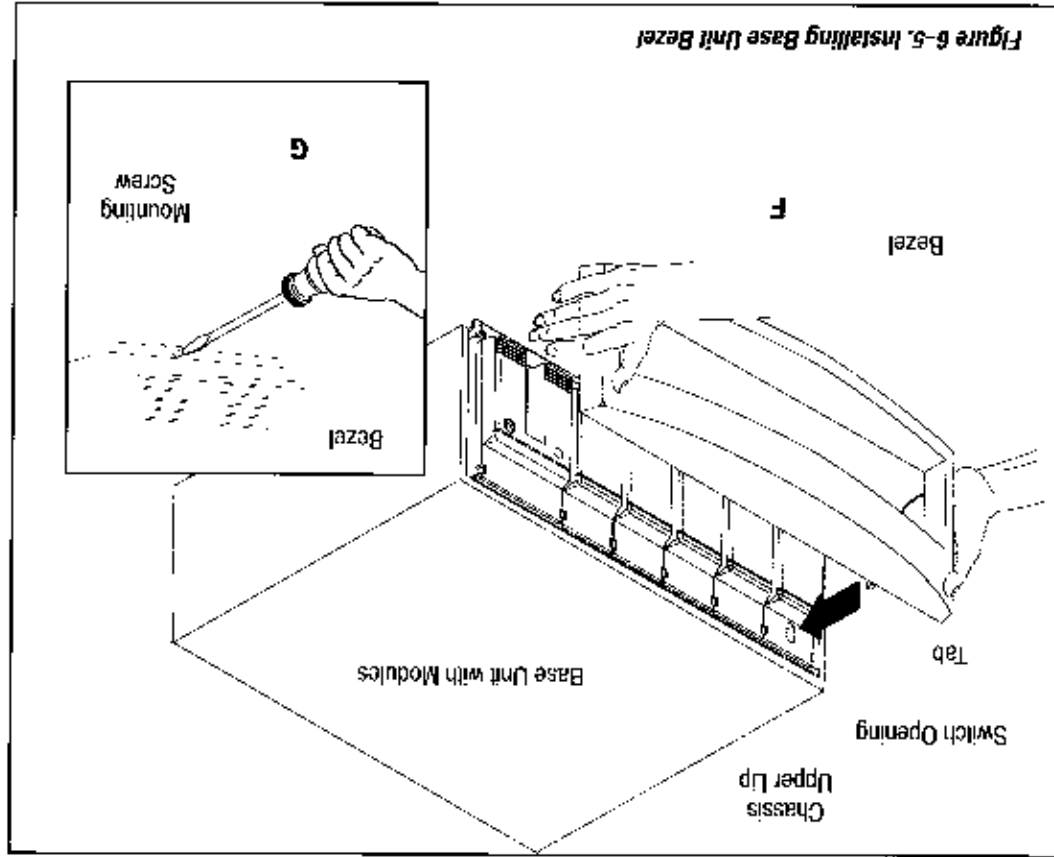

Figure 6-5. Installing Base Unit Bezel
- F. Install the bezel by holding it in a vertical position as shown in Figure 6-5 and placing it on the lip at the top of the base unit while aligning the tab on the bezel with the switch opening on the power module. The switch inside the power module is spring loaded and you will feel the tension as you set the bezel into the lip.